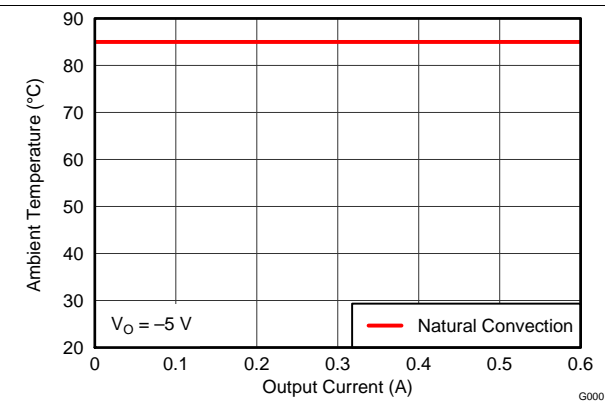
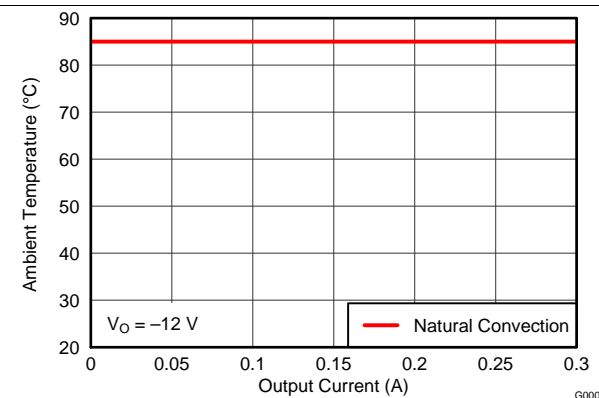
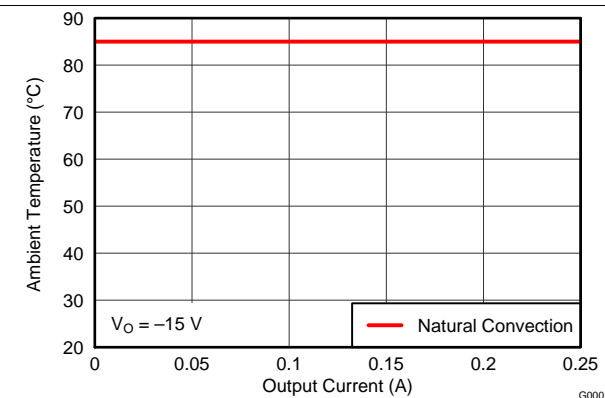

Figure 4. Safe Operating Area
Figure 5. Safe Operating Area
Figure 6. Safe Operating Area
- (2) The temperature derating curves represent the conditions at which internal components are at or below the manufacturer's maximum operating temperatures. Derating limits apply to devices soldered directly to a 100 mm × 100 mm, 4-layer, double-sided PCB with 1 oz. copper. Applies to Figure 4, Figure 5, and Figure 6.